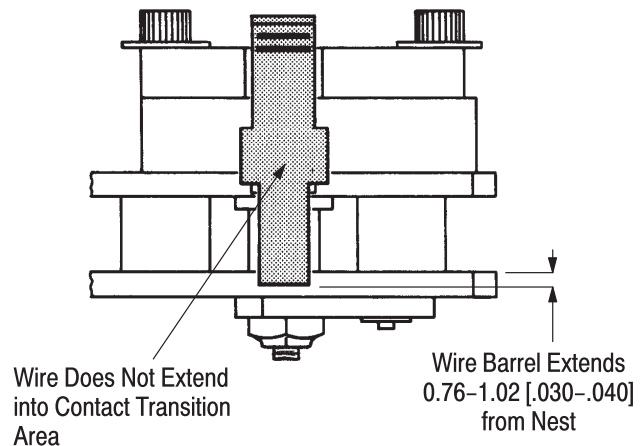

Figure 5
8. Close tool head just enough to retain the contact; then insert the wire into the wire barrel, making sure the wire does not extend beyond the wire barrel. See Figure 5.